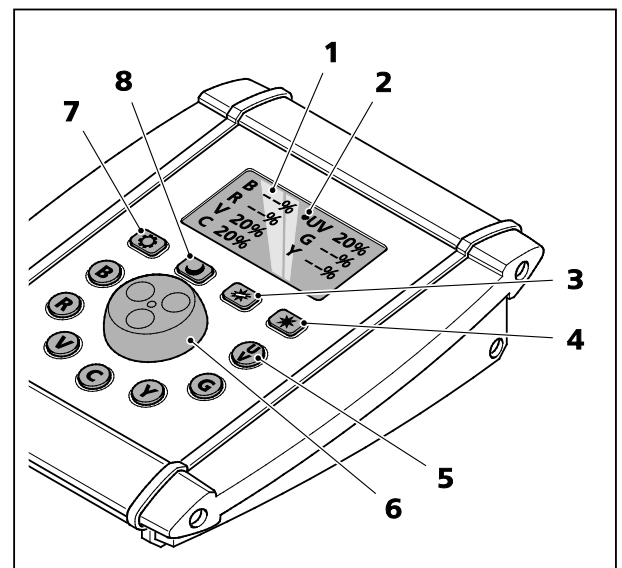

Fig. 15 Control panel for Colibri 7
- Switch on the desired LED by shortly pressing the corresponding LED button (see Fig. 15/5), e.g. **UV** LED button.
The LED button lights up. On the display (Fig. 15/1), the current brightness value is shown as a percentage to signal that the LED is switched on.
- Activate the brightness adjustment for an LED by pressing the control dial (Fig. 15/6) shortly downwards.
The LED which is switched on and activated for brightness adjustment will flash. The LED which has been activated for brightness adjustment will be marked with a circle (Fig. 15/2) left of the letter.
- To adjust the brightness control of all LEDs switched on simultaneously press the  button (Fig. 15/4).
- To quickly switch on and off all LEDs switched on simultaneously press the  button (Fig. 15/3).
- To activate / deactivate the standby mode press the  button (Fig. 15/8).
- To change the brightness of buttons and display press the  button (Fig. 15/7) and set the desired brightness using the control dial. To finish the setting, press the  button again.